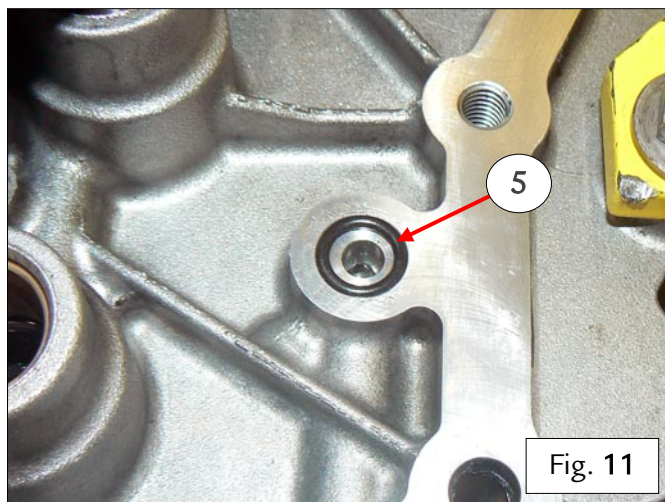

Fig. 11
- Fit the indicated blocks in the relative seats on the complete assembled synchronizer (8), pressing gently by hand to fasten into place – Fig. 11.
- Install the new O-ring (5) on the interface plate – Fig. 11.